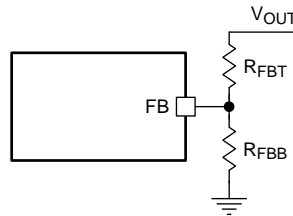

**Figure 13. SW Node and Inductor Current Waveforms in Continuous Conduction Mode (CCM)**
The following operating description of the LMR23625-Q1 refer to the Functional Block Diagram and to the waveforms in Figure 13. LMR23625-Q1 is a step-down synchronous buck regulator with integrated high-side (HS) and low-side (LS) switches (synchronous rectifier). The LMR23625-Q1 supplies a regulated output voltage by turning on the HS and LS NMOS switches with controlled duty cycle. During high-side switch ON time, the SW pin voltage swings up to approximately  $V_{IN}$ , and the inductor current  $i_L$  increase with linear slope  $(V_{IN} - V_{OUT}) / L$ . When the HS switch is turned off by the control logic, the LS switch is turned on after an anti-shoot-through dead time. Inductor current discharges through the LS switch with a slope of  $-V_{OUT} / L$ . The control parameter of a buck converter is defined as duty cycle  $D = t_{ON} / T_{SW}$ , where  $t_{ON}$  is the high-side switch ON time and  $T_{SW}$  is the switching period. The regulator control loop maintains a constant output voltage by adjusting the duty cycle  $D$ . In an ideal buck converter, where losses are ignored,  $D$  is proportional to the output voltage and inversely proportional to the input voltage:  $D = V_{OUT} / V_{IN}$ .